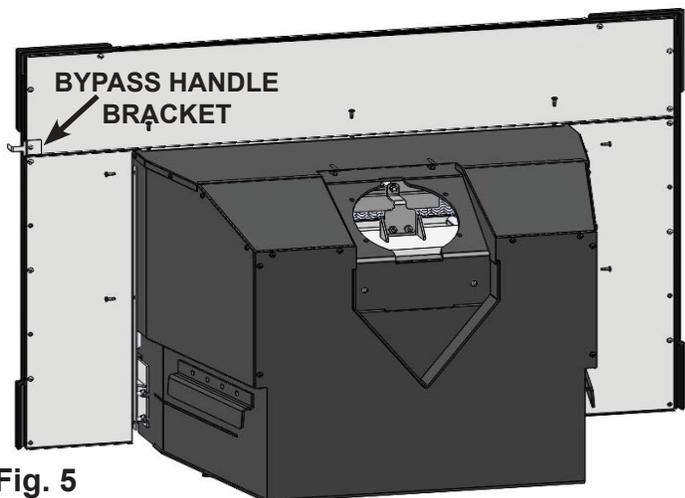

Fig. 5
6. Slide shroud down behind front cast and fasten to firebox with seven #8 x 1/2 screws. The bypass door handle bracket can be screwed to either side of the shroud. (Fig. 5)